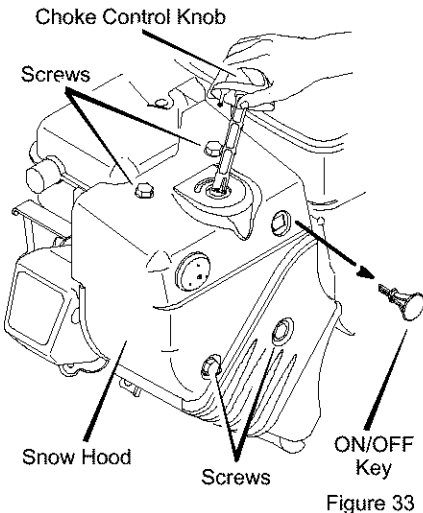

Figure 33
1. Remove the choke control knob (see Figure 33).